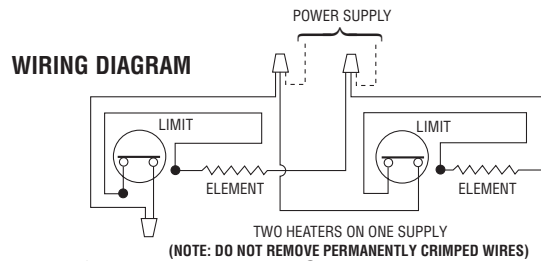

Figure 10. Dual Heater Wiring Connections
- Wire heaters as shown in Wiring Diagram, Figure 10.